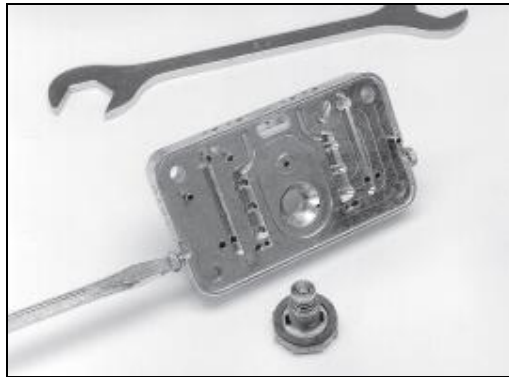

Figure 6
7. The power valve can be removed from the metering block with a 1-inch socket, open-end or box wrench (Fig. 6). However, when using either of the latter tools, care must be taken to avoid damaging the sealing beads on the block surface.